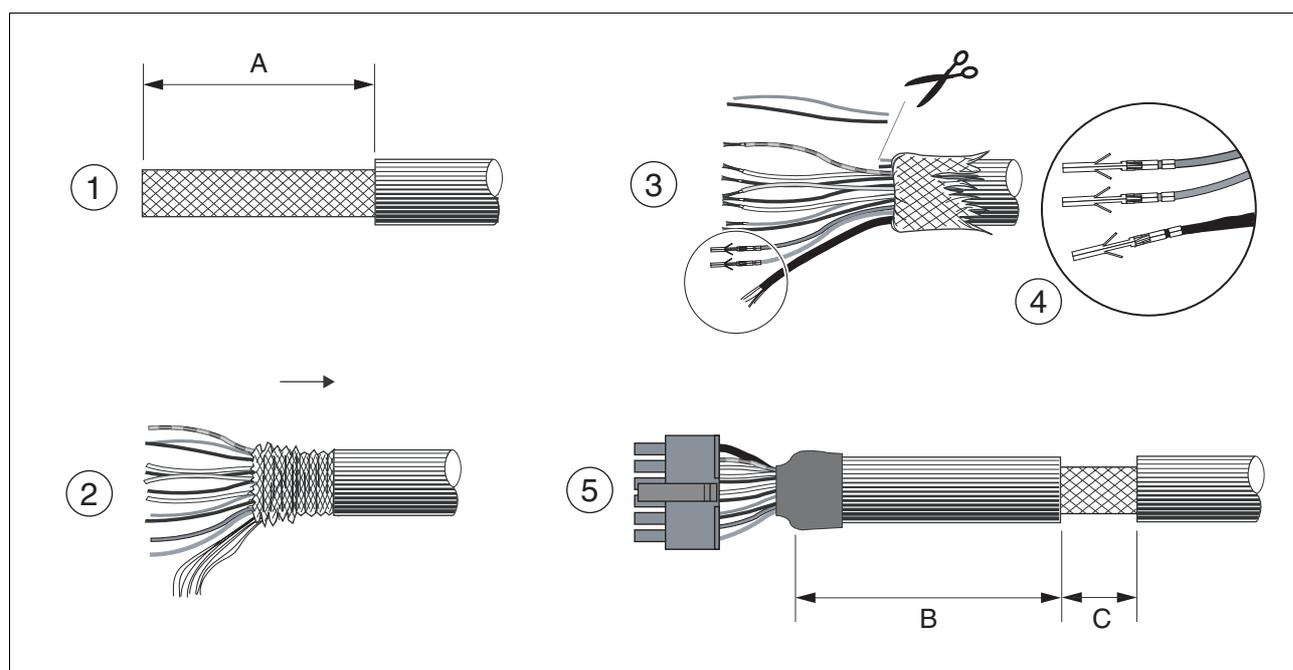

Figure 6.13 Steps (1-5) for fabrication of the sensor cable
- ▶ Use prefabricated cables to minimise the risk of a wiring error (from page 344). Step 5 in Figure 6.13 must be carried out even with prefabricated cable. The dimensions for positioning the shield on the housing are applicable when the included EMC plate is used.
- ▶ If you are not using prefabricated wiring, follow the procedure and the dimensions in Figure 6.13.